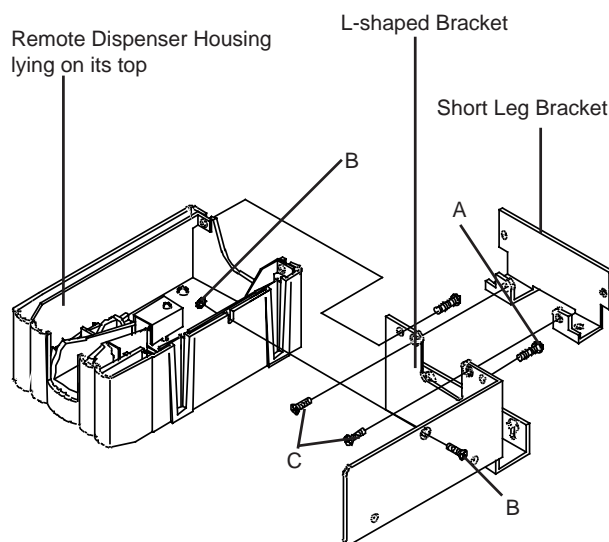

Figure 7 Remote Dispenser Housing Installation in Remote Locations
2. Lay the remote dispenser housing on its top. Place the L-shaped bracket to the left and back sides of the remote dispenser housing. Replace the two screws (1/2" x 8/32" pan head) removed in step 1 into the back of the housing to attach the bracket (See Figure 7, A).
3. Place one flat head screw (1/2" x 8/32") into the left side bottom of the L-shaped bracket. Secure it with the nut supplied. (See Figure 7, B).
4. Locate the short leg bracket and two flat head screws (1/2" x 8/32"). Line up the two holes on the short legs with the two holes on the remote dispenser housing. The long leg should point up. Screw in the two flat head screws to attach the bracket. (See Figure 7, C).